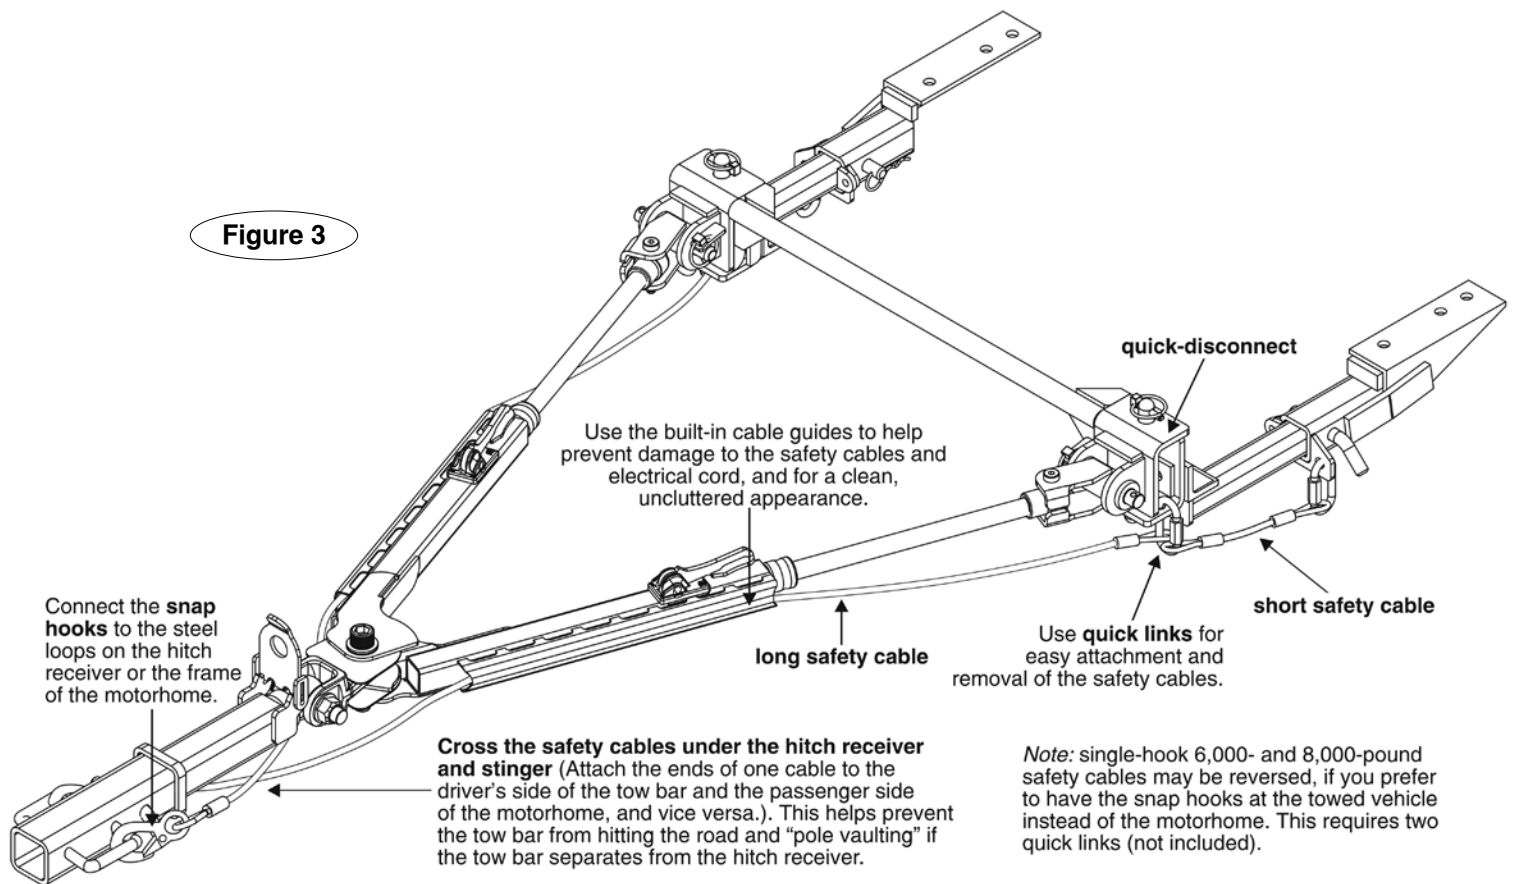

Figure 3
Some ROADMASTER tow bar mounting brackets with removable arms, such as the ones in Figures 3 and 4, use both a long safety cable and a short safety cable on each side.
If your towing system requires two sets of safety cables, always use both the long and the short safety cables. Connect them as shown in Figures 3 and 4. Otherwise, in the event of a towing system failure, the towed vehicle will detach, which may cause property damage, personal injury or even death.
- Always cross the cables under the hitch receiver, as shown in Figure 3 under “Proper installation of safety cables” (above). In the unlikely event the tow bar separates from the motorhome, crossing the cables will help prevent the tow bar from dragging on the ground, which can cause the tow bar to “pole vault” the towed vehicle.